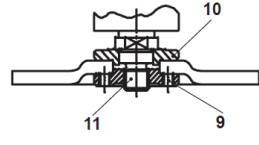

Fig. 15
- Thick wheels (> 4 mm) with curved centre: place the locking flange (9) with protruding side to the wheel (Fig. 15).